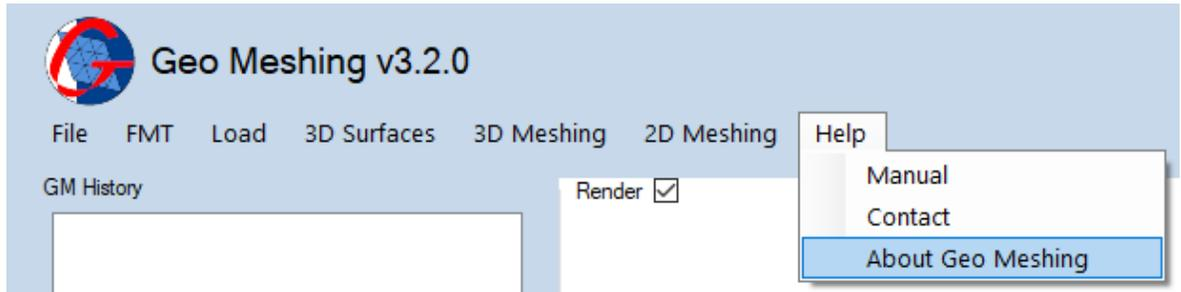

Figure 39: Help Strip Menu – About Geo Meshing.
- **Help Menu, About Geo Meshing:** This option (shown in Figure 39) displays *Geo Meshing v3.2* information along with the *Geo Meshing v3.2* code (See section 3.3 for more information).